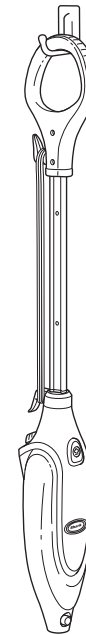

fig. 13
**2** The unit can be stored on a large wall hook (not included). Allow the unit to cool, then detach the mop head before hanging the unit on the wall. (fig. 13).